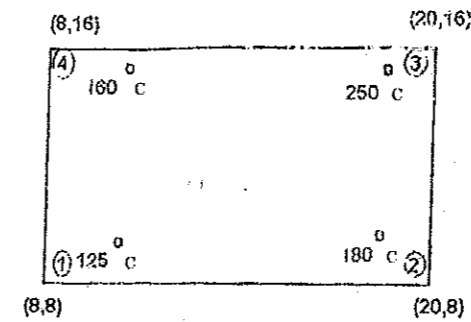

Fig. 13 (b)
- b) i) For the element shown in Fig. 13 (b) determine the temperature at the point whose coordinates are (12, 15) and also three points on the 200° C contour line. (10)